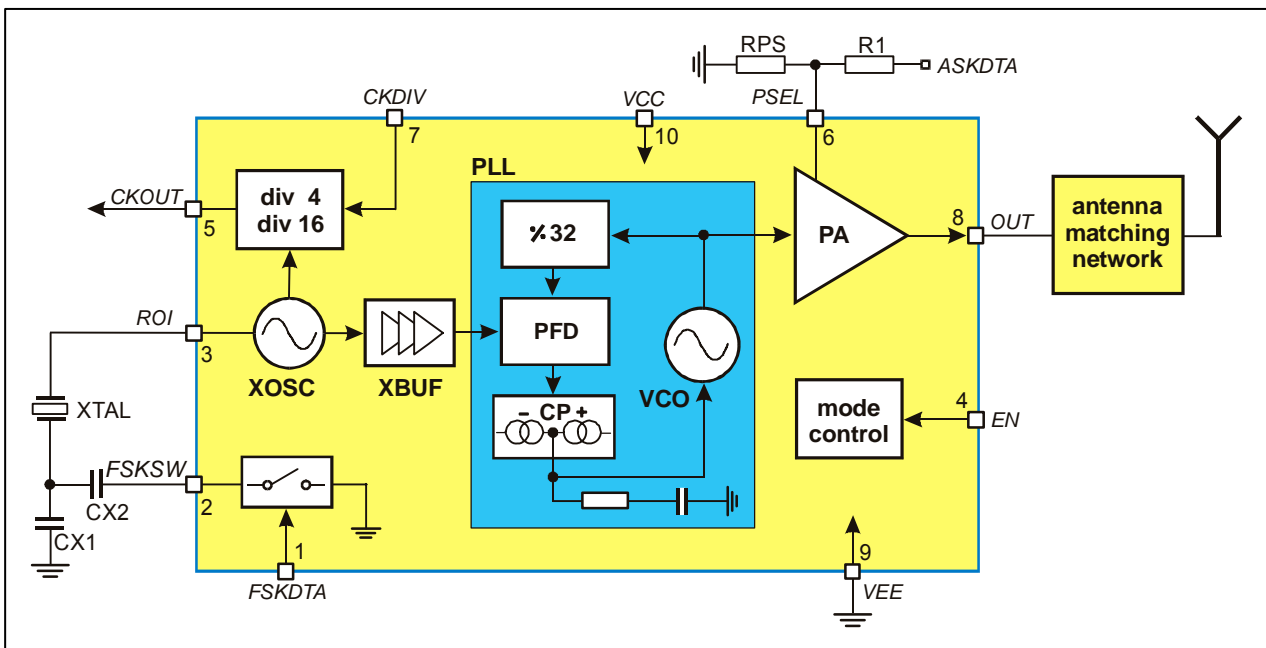

Fig. 1: Block diagram with external components
As depicted in Fig.1, the TH72006 transmitter consists of a fully integrated voltage-controlled oscillator (VCO), a divide-by-32 divider (div32), a phase-frequency detector (PFD) and a charge pump (CP). An internal loop filter determines the dynamic behavior of the PLL and suppresses reference spurious signals. A Colpitts crystal oscillator (XOSC) is used as the reference oscillator of a phase-locked loop (PLL) synthesizer. The VCO's output signal feeds the power amplifier (PA). The RF signal power P_{out} can be adjusted in four steps from $P_{out} = -12$ dBm to +11 dBm, either by changing the value of resistor RPS or by varying the voltage V_{PS} at pin PSEL. The open-collector output (OUT) can be used either to directly drive a loop antenna or to be matched to a 50 Ohm load. Bandgap biasing ensures stable operation of the IC at a power supply range of 1.95 V to 5.5 V.